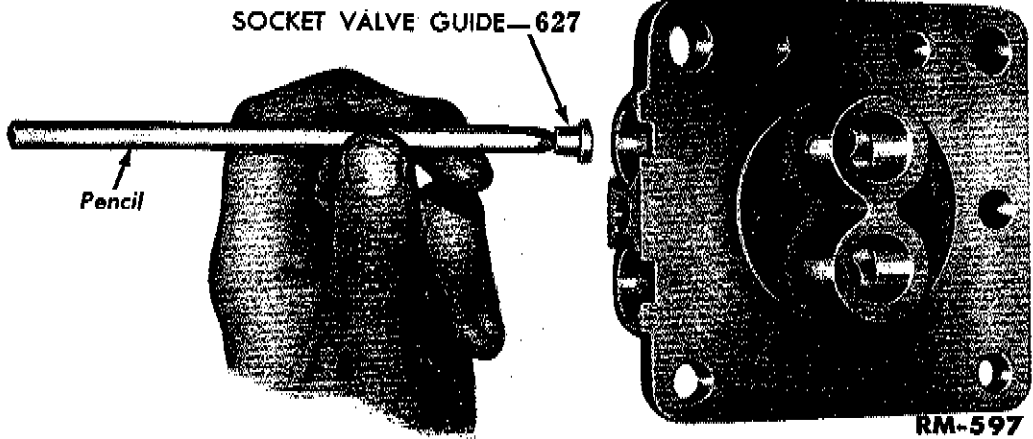
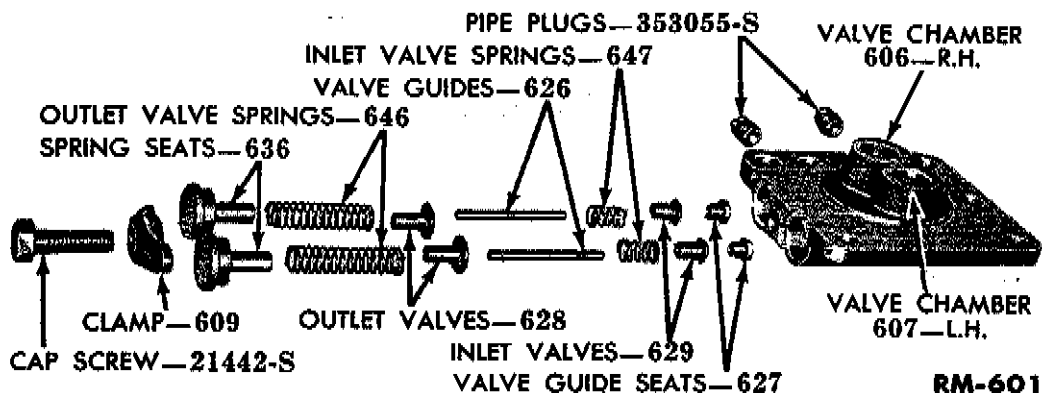

Fig. 23—Removing Valve Guide Seats
Fig. 27—Valve Chamber, Disassembled
clamp from each valve chamber cover. Remove the two spring seats, outlet valve springs, outlet valves, inlet valve springs, inlet valves, valve guides, and valve guide seats from each valve chamber (fig. 27). Remove the two valve guide seats from each valve chamber cover with a pencil as shown in fig. 23.
c. **Assembly.** Lubricate all parts before assembly. Install the exhaust control valve (fig. 27) in the exhaust control valve bushing. Install the intake control valve, spring, washer, and spring retainer in the bushing. Hold the intake control valve in the bushing, and install the valve control lever (fig. 27). Connect the exhaust control valve to the control lever with a clevis pin and cotter pin. Secure the control lever to the cover with a cotter pin. Install the safety valve assembly (fig. 24) on the pump base. Install the valve guide socket, valve guide, inlet valve, inlet valve spring, outlet valve, outlet valve spring, and valve chamber plug as shown in fig. 27. Secure the valve assembly in place with the top clamp and cap screw. This procedure applies to both the left and right valve chambers. Install the cam block on the cam as shown in fig. 26. Install a piston on each cam block, making sure that the narrow parts of the offset on each piston are together when the pistons are installed on the cam blocks. After the pistons are assembled on the cam block, the pistons may be fitted to the cylinders in a valve chamber to be sure that the pistons have been assembled correctly on the cam block. Install the power take-off bushing in the pump base. The shoulder bushing must be installed toward the Position the pistons, cam block, and cam as: